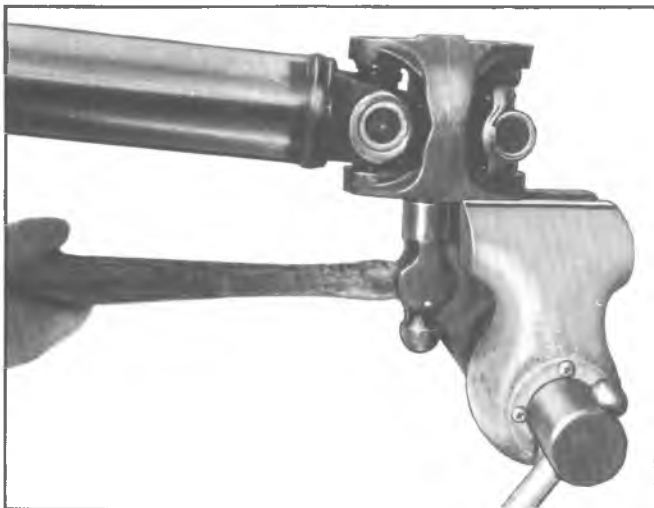

Fig. 31—Bearing Cup Removal
4. Once the bearing cup protrudes 3/8", release vice. Grasp protruding portion of cup in vice and strike center yoke as shown in Figure 31 until cup is removed. Remove cup seal by prying off with a thin screwdriver.